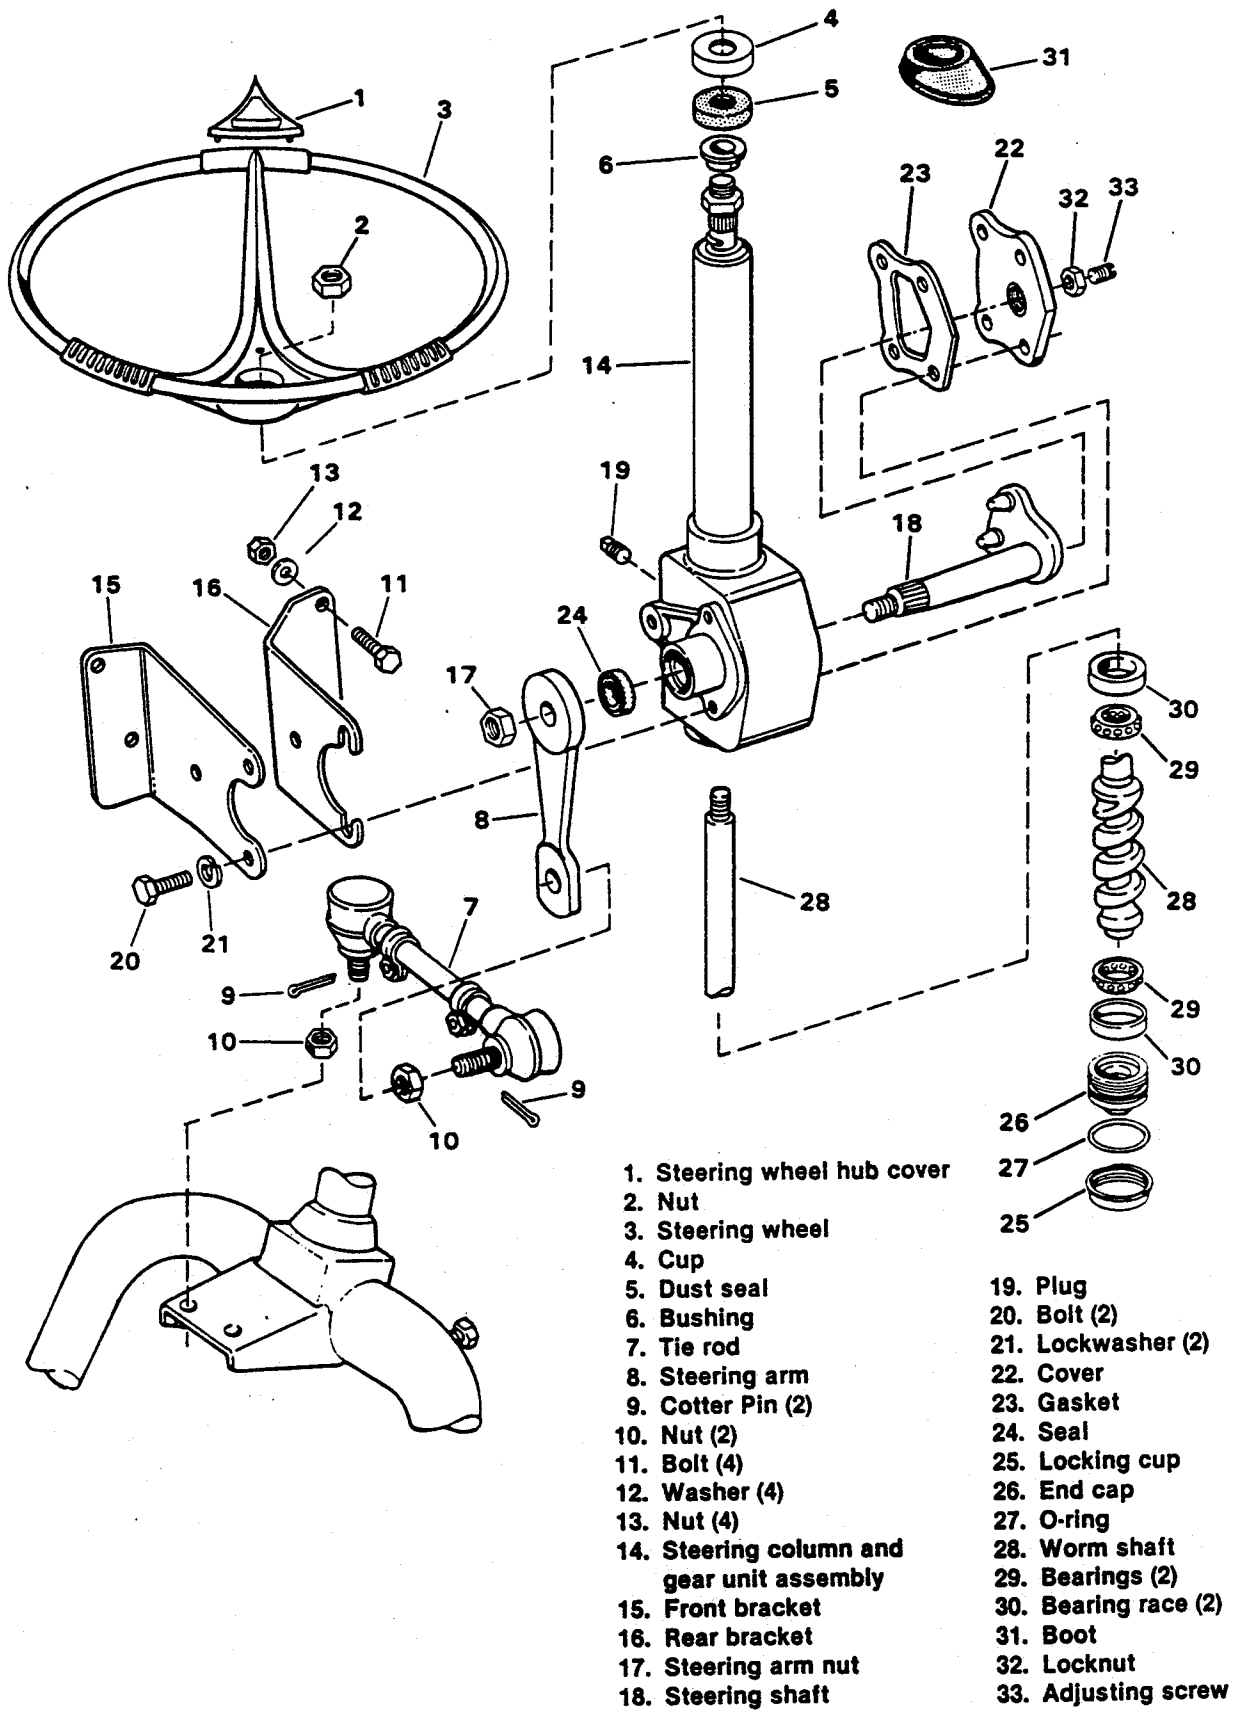
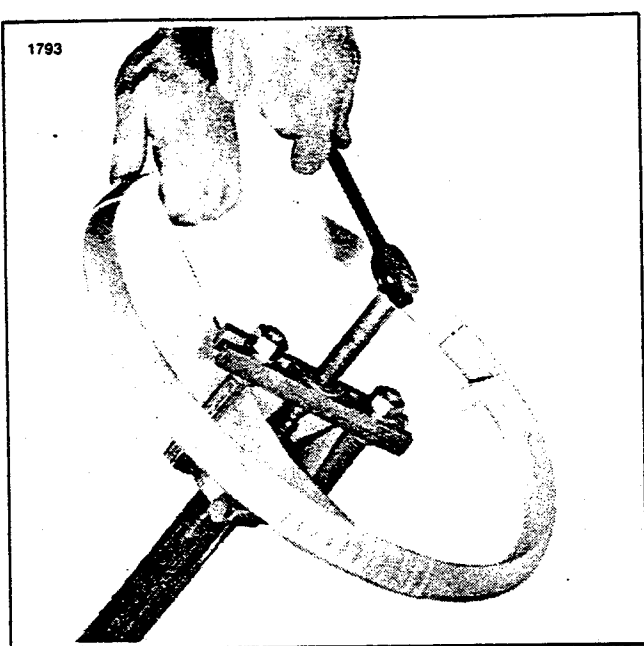

Figure 2-9. Steering Wheel and Steering Gear Unit— Exploded View
Figure 2-10. Pulling the Steering Wheel
A steering wheel assembly is offered as optional equipment. The steering gear box lubricant level should be checked yearly and filled to overflowing through the filler plug (19, Figure 2-9). Use Harley-Davidson TRANSMISSION LUBRICANT Part No. 99890-61A. If water is evident in the steering box, drain and flush it with light engine oil before refilling. This steering assembly has a tie rod assembly which is sealed at the time of manufacture. Each tie rod end is equipped with a plug that can be removed to accept a grease fitting. The tie rod should be greased annually.
Locking cup (25, Figure 2-9) is bent down into notch in housing in one spot. This is original factory adjustment.
2. Remove the nut and cotter pin (9, 10, Figure 2-9) from the front fork. Remove the tie rod.
1. See Figure 2-9. Remove the steering wheel hub cover (1).
3. See Figure 2-9. Loosen the steering wheel nut (2) until flush with the end of shaft and apply penetrating oil to the shaft splines.
4. See Figure 2-10. Install Harley-Davidson WEDGE ATTACHMENT, Part No. 95637-46, under the steering wheel. Cup (4, Figure 2-9) can be depressed to gain clearance. Place a thick washer on top of the steering wheel nut to prevent damage to the shaft from the puller. (I.D. of washer should be smaller than O.D. of steering shaft.) Pull steering wheel loose from shaft using Harley-Davidson PULLER, Part No. 97292-61.
6. See Figure 2-9. Cup (4), dust seal (5) and bushing (6) can be removed from the steering shaft housing if necessary.
1. See Figure 2-9. Install bushing (6), seal (5) and cup (4) in steering shaft housing.
3. See Figure 2-9. Install steering wheel nut and tighten it to 40-50 ft-lbs (5.5-6.9 kgm) torque. Install the cover (1).